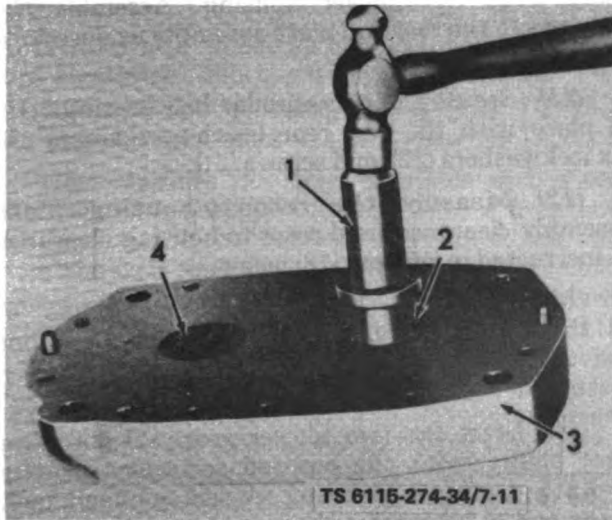

Figure 7-11. Blower Bearings and Oil Seals Removal
(13) Remove the bearing (4, fig. 7-11) from the housing end plate (3) by inserting the bearing and oil seal removed (1) through the oil seal (2) from the inner face of the housing end plate (3). Position the tool so that the pilot enters the bore in the inner race of the bearing and the shoulder of the tool rests against the face of the bearing inner race. Drive the bearing from the housing end plate assembly; drive the oil seal (2) from the housing end plate. Follow this same method for removing all four of the bearings and seals from both housing end plates.